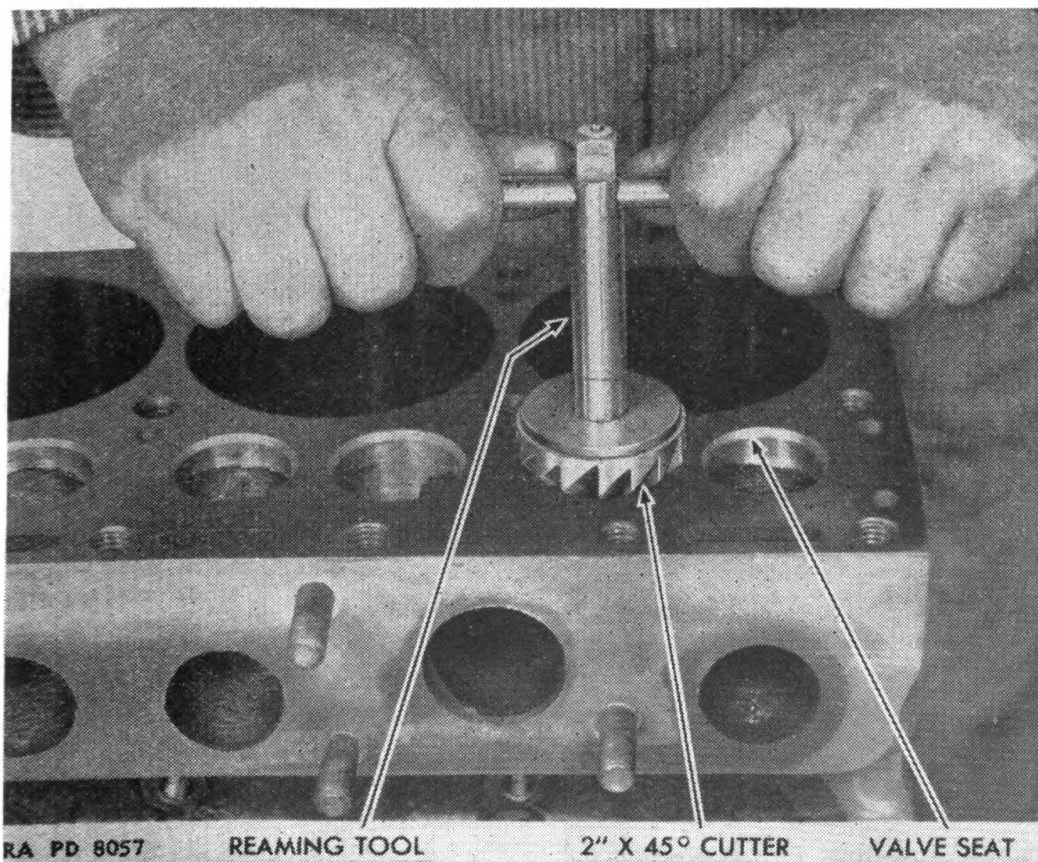
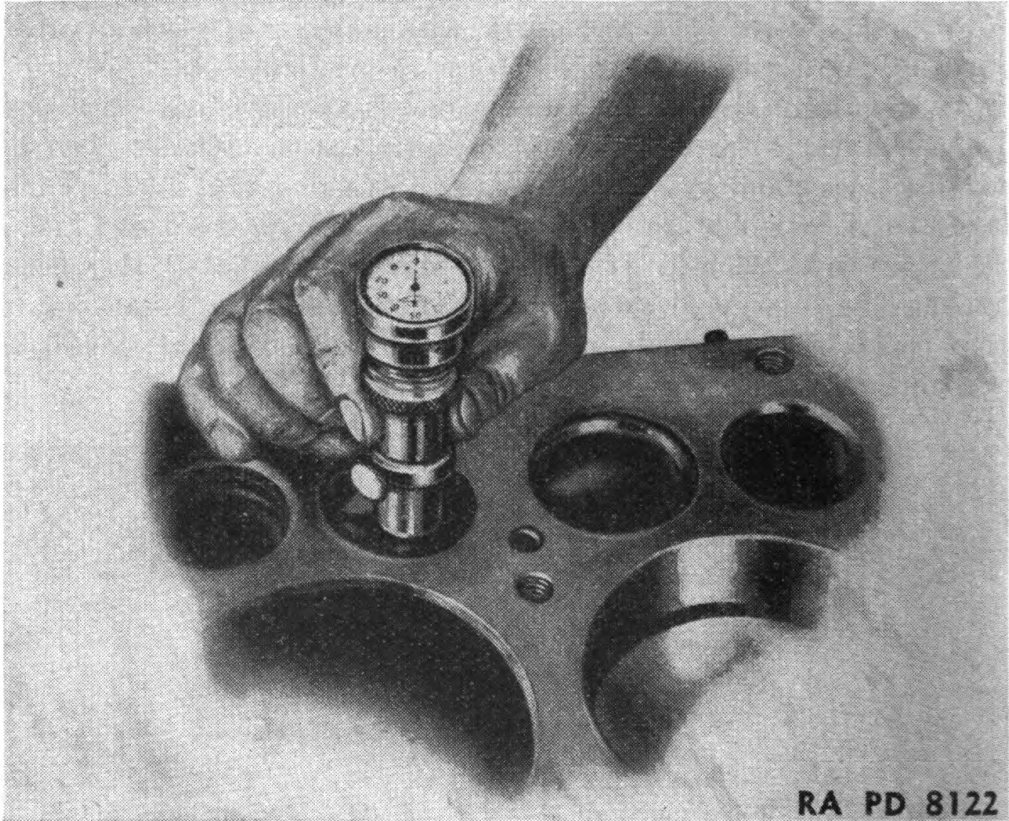

FIGURE 145.—Valve seat reaming.
FIGURE 146.—Valve seat checking.
(7) *Reaming valve seats.*—(a) Using a valve reseating tool (2 inches by 45° cutter), ream out the valve seats until a new cut shows evenly all around the valve seat (fig. 145). Bear down on reamer to get the cut, otherwise a glazed surface will result after the engine has been in operation a short time. Use the same tool for intake and exhaust valve seats. Check surface with a dial indicator (fig. 146).